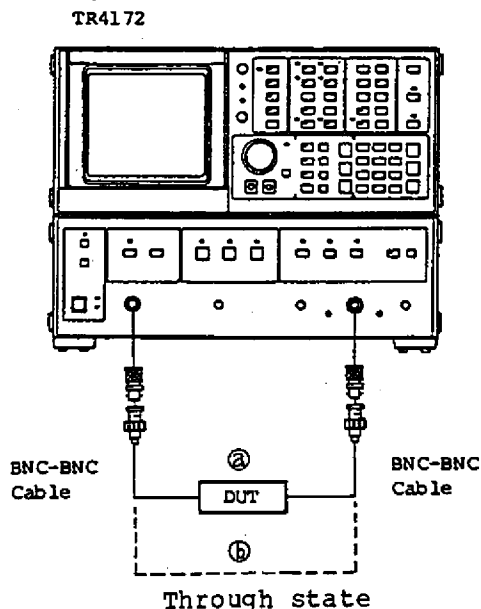

Fig. 6-7 Measuring system setup
- (1) As shown in Figure 6-7, insert a DUT (filter) between the TR4172 TRACKING GENERATOR OUTPUT connector and the INPUT connector. This state of connection is called (a). The state of the two connectors being kept through with the DUT removed is called (b).
- (2) In general, various types of SAW filter are available with input/output impedance of 50 Ω , 75 Ω , 200 Ω , 300 Ω , 1k Ω , and more than 1 k Ω . Before measurement, use an appropriate measure to obtain impedance matching between the SAW filter and the instrument. A schematic diagram of the recommended matching network can be obtained from the manufacturer of the filter.
- (3) A saw filter usually has a 20 dB insertion loss. To compensate for this loss, some filters contain an amplifier. If a filter with a self-contained amplifier is to be used, note the maximum output level of the tracking generator.
- (4) Use the shortest possible cables.
- ① Set up the center frequency, sweep span, input condition, and other necessary parameters.
- ② Remove the DUT from the connection cable to place the TR4172 TRACKING GENERATOR OUTPUT connector and the INPUT connector in a through state as indicated by (b) in Figure 6-7.
- ③ Press the kHz (G.D. OFFSET) key to obtain a flat phase response. If fine adjustment is required, press the kHz key again to select the G.D. OFFSET FINE mode and perform fine adjustment.
- ④ Press the MHz (G.D. OFFSET) key to position the phase response trace to the center of the vertical scale.
- ⑤ Connect a filter in the through state as indicated by (a) in Figure 6-7, then press the PHASE key; the phase response of the DUT (filter) will be displayed. Display resolution can be increased with the DATA knob or DATA step keys (80, 40, 20, 8, ... 0.2 deg/div.).